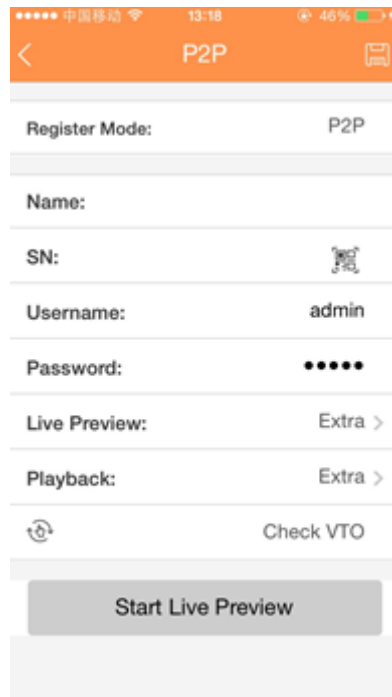

Figure 4-133
3. Tap Device manager button, you can use several modes (P2P/DDNS/IP and etc.) to add the device. Click  to save current setup. Tap Start Live preview to view all-channel video from the connected device. See Figure 4-133.